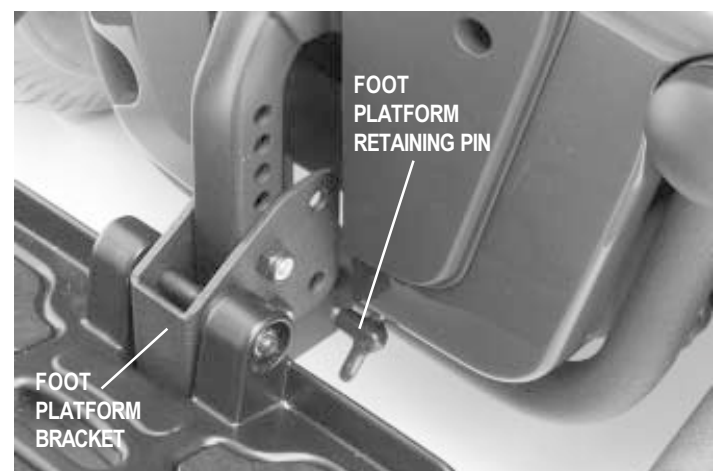

Figure 16. Foot Platform Adjustment
1. Remove the fasteners from the foot platform bracket. See figure 16.